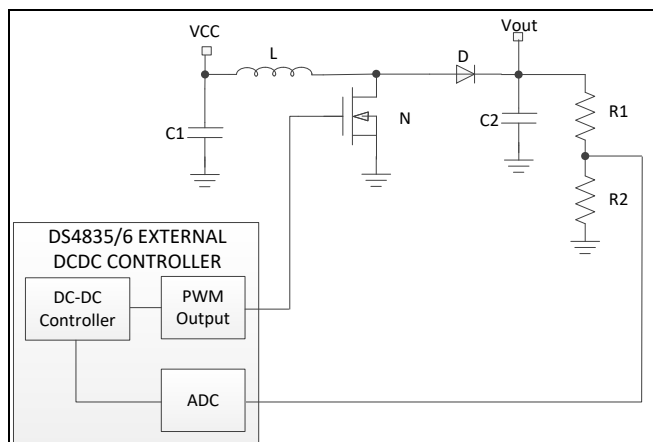
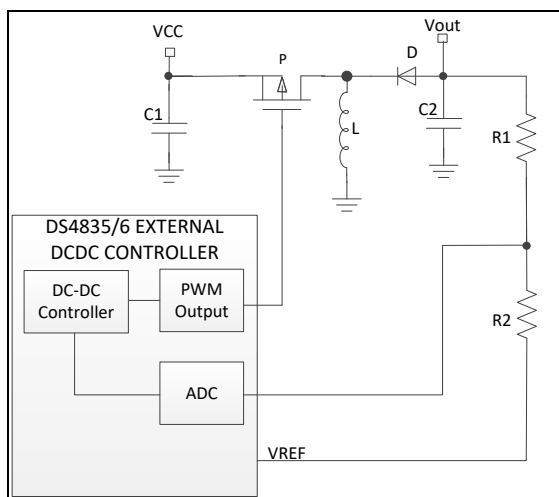

Figure 9.1: Boost DC-DC Converter
Figure 9.2: Inverting DC-DC Converter
The DS4835/36 has four independent DCDC controllers that can be used to drive external DCDC circuits. These controllers can be used for buck or boost converters or inverting DCDC converters. Figure 9.1 shows the circuit used for external boost operation. The voltage achievable with the external boost circuit is limited only by the selection of external components. Figure 9.2 shows an inverting DCDC circuit which can be used to generate a negative voltage required for EML lasers.
- 1) As shown in Figure 9.2, a resistor divider is placed between the negative output voltage and the VREF pin. The resistors must be scaled so that the feedback voltage that is input to the ADC is a positive voltage.